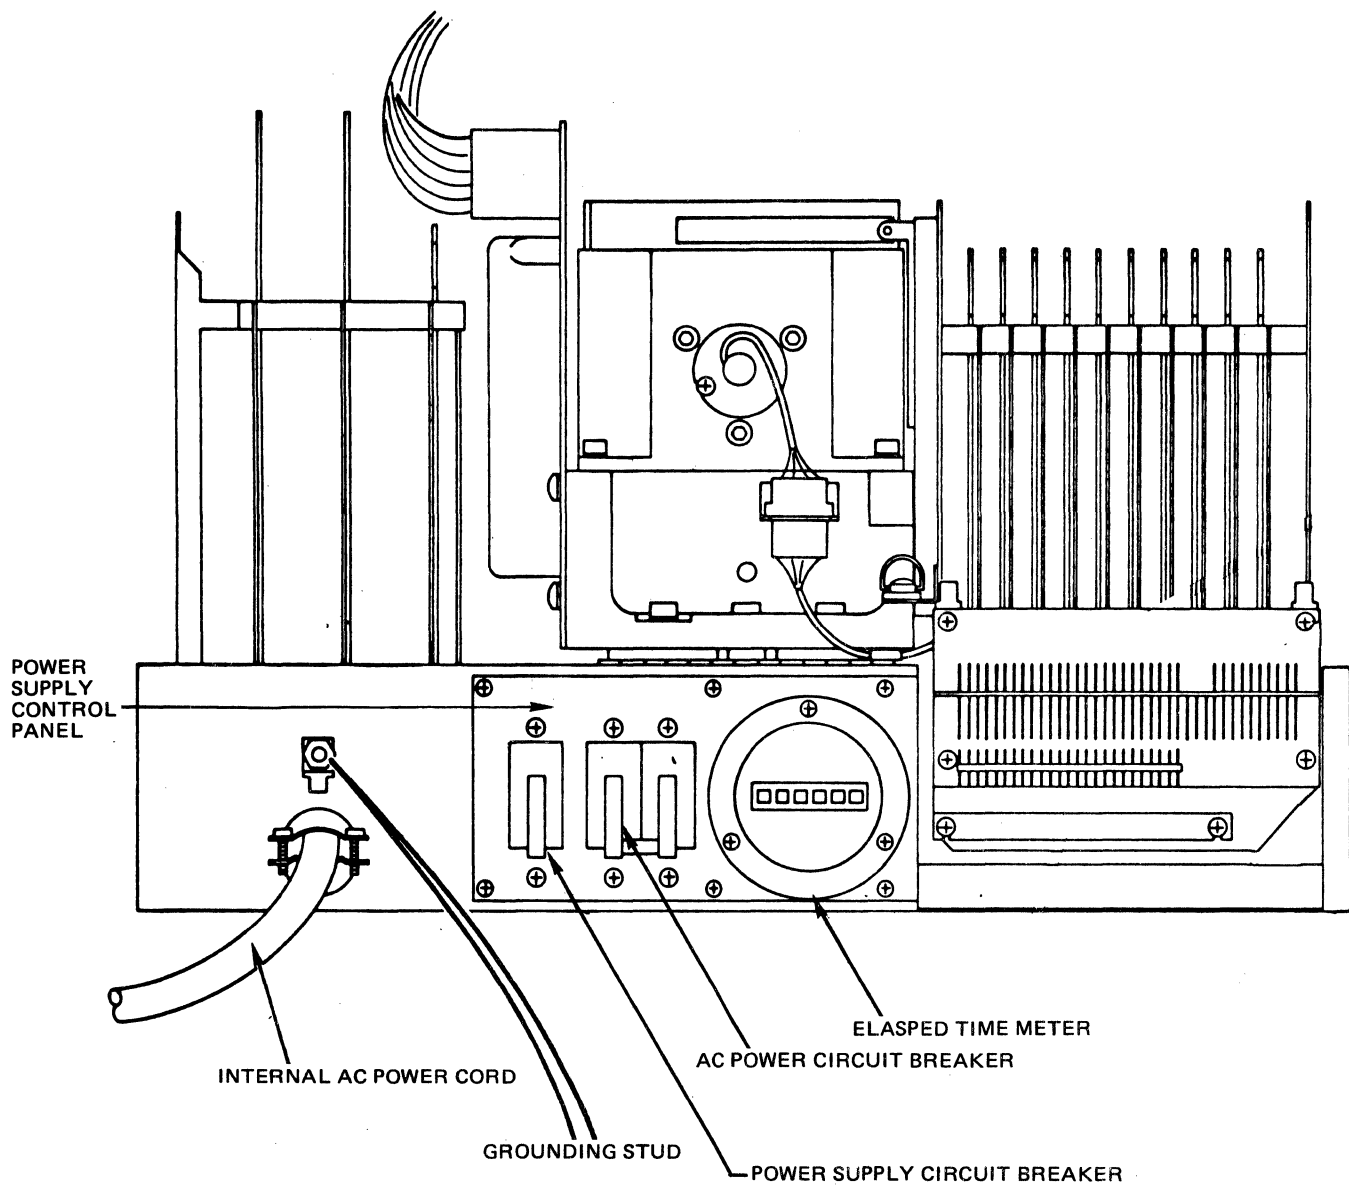

Figure 2-6 Rear View of Mass Storage Unit
5. Locate grounding stud at rear of upper mass storage unit (see Figure 2-6) within cabinet.